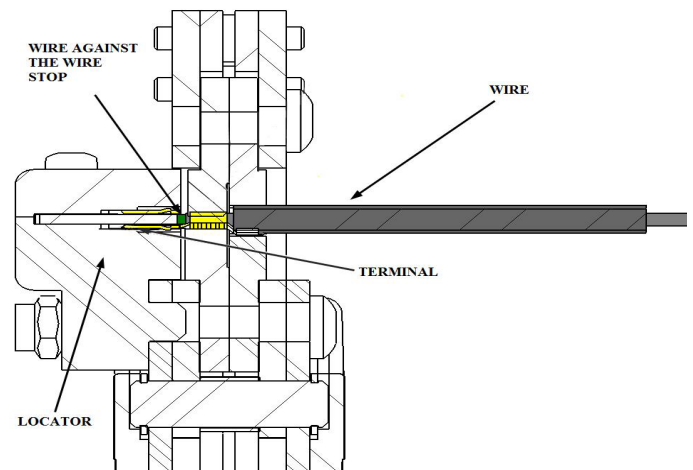

Figure 2
2. Load the terminal into the proper nest opening marked with the wire gauge on the hand tool. See Figure 2.
4. Insert the properly stripped wire through the terminal and against the wire stop. See Figure 2.